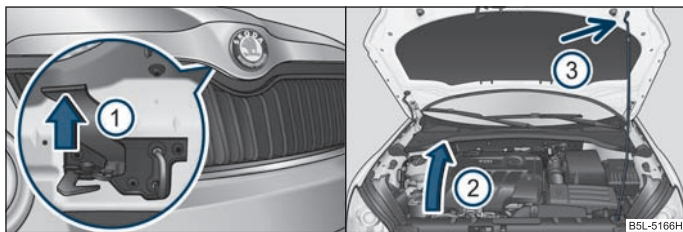

Fig. 165 Radiator grille: Locking lever/securing the bonnet with the bonnet support
- Pressing on the locking lever in direction of arrow ① ⇒ fig. 165 will unlock the bonnet.
- Take the bonnet support out of its holder in direction of arrow ② and secure the opened bonnet by inserting the end of the support in the opening ③ designed for it ⇒ fig. 165.